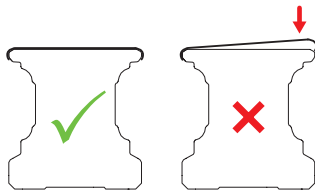

Fig. 5.20 Correctly and incorrectly installed cover tape
- ▶ To do this, press down the fold of the cover strip first on the reference side of the profile rail. Then, press down the second fold of the cover strip starting from the front side, until the cover strip rests flush on the upper side of the profile rail, see Fig. 5.20.